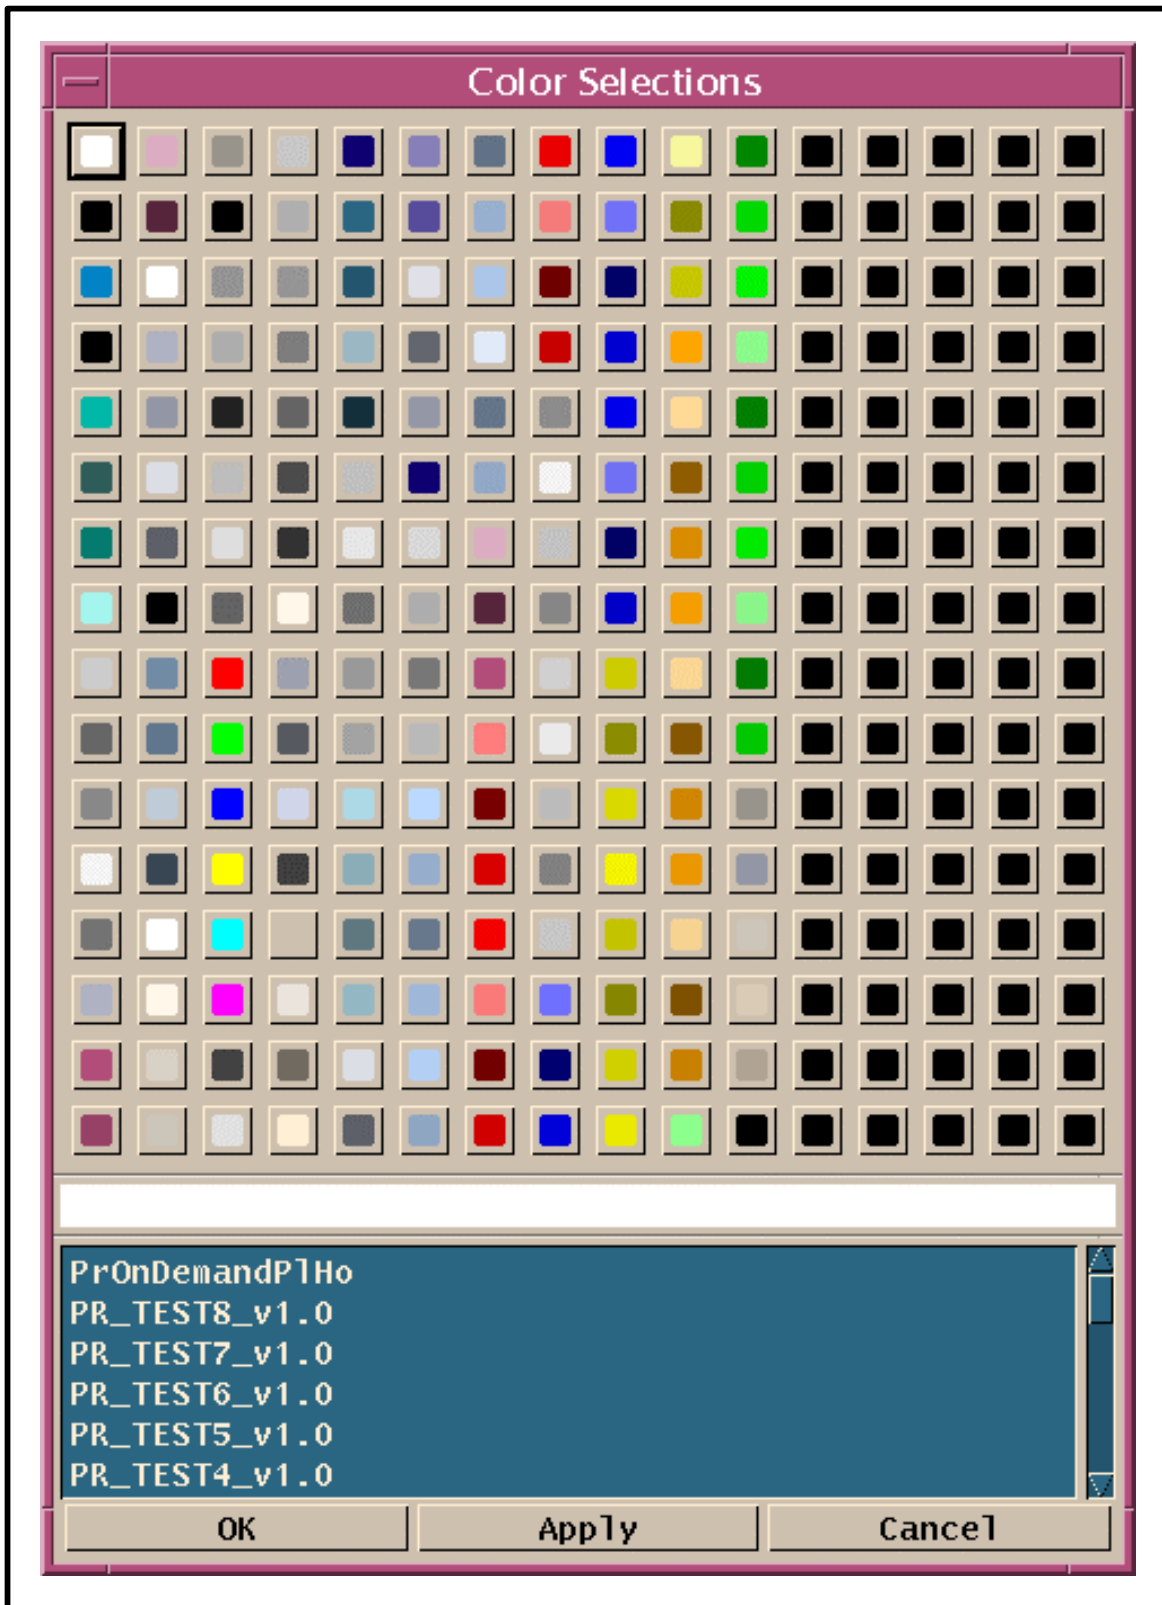

Figure 51. Color Selections Window
- The Color Selections window (Figure 51) is displayed.